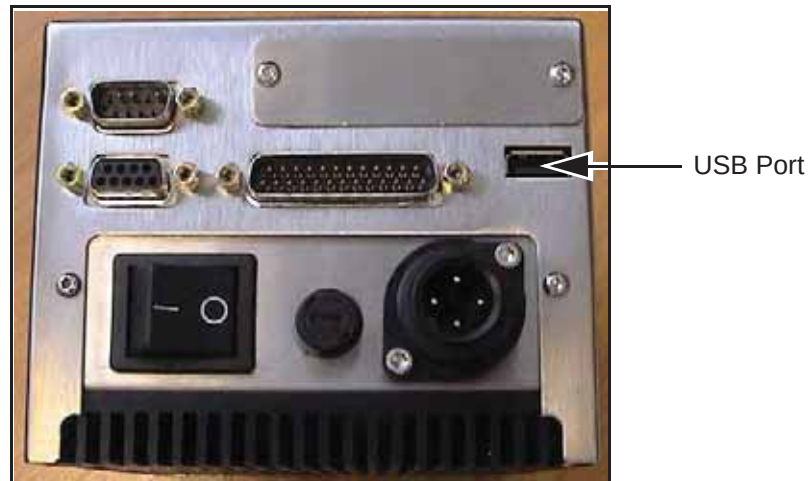

Figure 5-30: USB Location
- 2 Connect the stick to the CLARiTY Operator Interface via the USB port as shown in Figure 5-30.